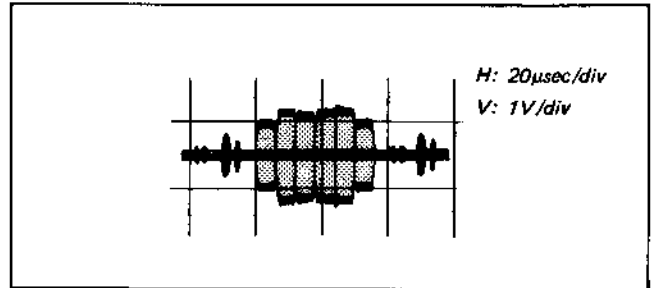

Fig. 4-4-11. Level check of chroma signal
- (1) Supply the VTR with the colour bar signal and set up the E-E mode.
- (2) Check that the chroma signal level at TP22 (pin 8 of IC2) is approximately 1.5 Vp-p. (See Fig. 4-4-11.)